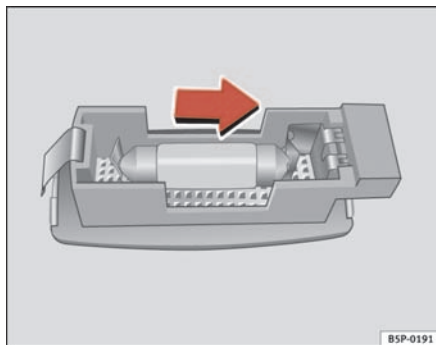

Fig. 197 Removing sunroof light
- Carefully remove the lamp, using the flat side of the screwdriver, as shown in the figure ⇒ fig. 197.
- Remove the lamp, moving it in the direction of the arrow and outwards ⇒ fig. 197. ■